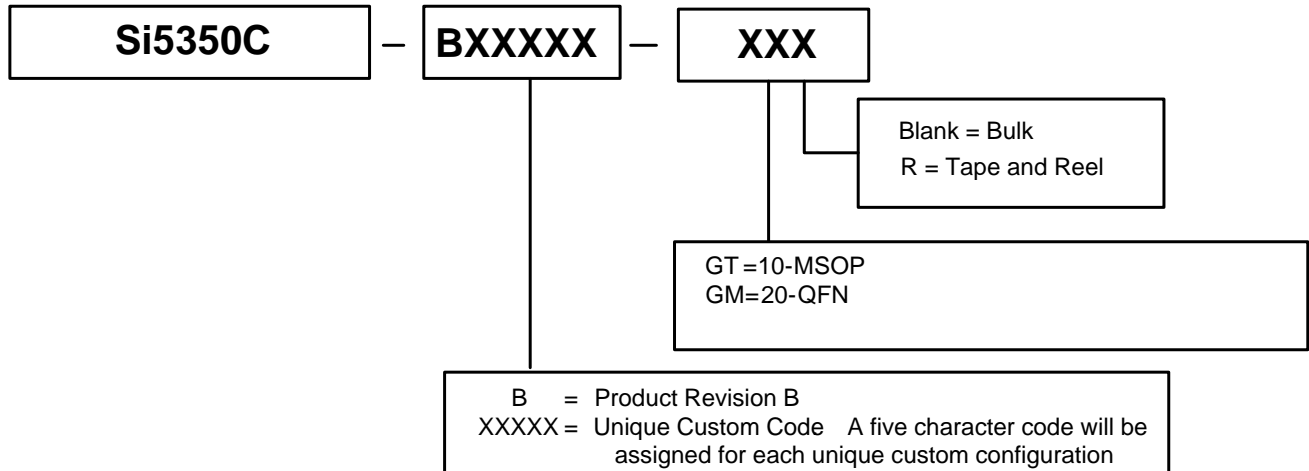

Figure 13. Custom Clock Part Numbers
Factory-programmed Si5350C devices can be requested using the ClockBuilder web-based utility available at: www.silabs.com/ClockBuilder. A unique part number is assigned to each custom configuration as indicated in Figure 13.
- Updated Figure 13, “Custom Clock Part Numbers,” on page 18.